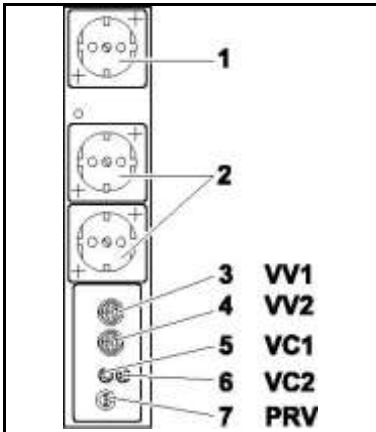

Fig. 10: Connections of the electrical supply unit
1. Connect signal socket of the vacuum controller with the electrical supply unit socket marked VC 1 (fig. 10/5) using the connection cable.
2. When using two vacuum controllers, connect the second vacuum controller’s signal socket to the electrical supply unit’s VC2 connection (6).
3. Insert the vacuum controller power cord plug into the designated electrical supply unit socket (2).
4. When using two vacuum controllers, insert the vacuum valves’ plugs into the electrical supply unit’s VV1 (3) und VV2 (4) connections.
5. Insert the pump vent valve plug into the electrical supply unit socket marked PRV (7).
6. Insert the vacuum pump power cord plug into the designated electrical supply unit socket (1).
2. Insert the coolant valve's plug into the vacuum controller's VV1 socket (see fig. 10/3).